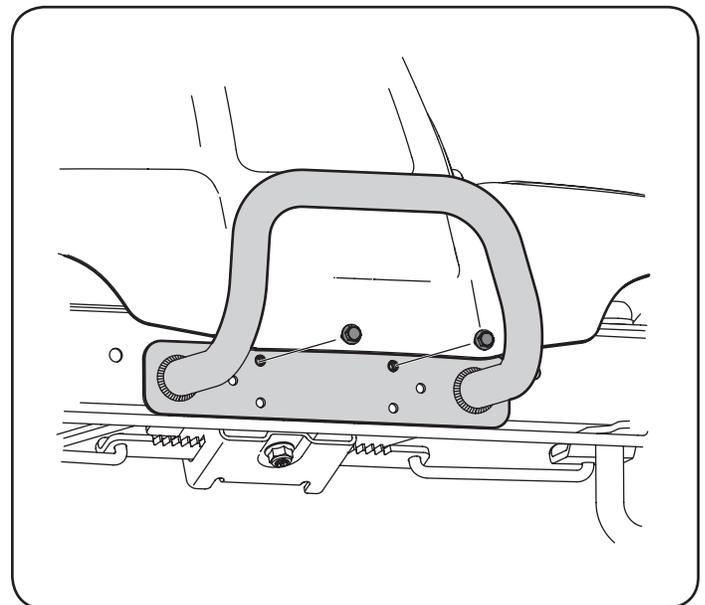

Figure 11
**Note:** Some tractors come equipped with a bumper installed. The bumper may be retained for later use in case in which the bagger is removed. See Figure 11.